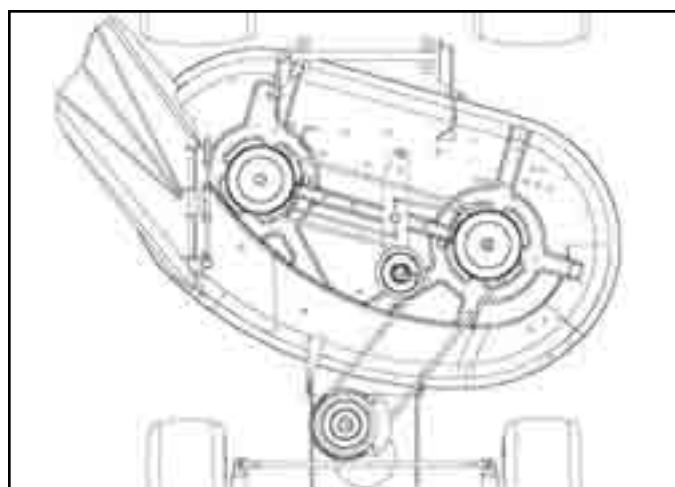

Fig A6 002 38in deck
3. Check the clearance between the brake pad on the brake arm assembly and the mower drive pulley. It should be set between .06" – .12" (1.5mm – 3.0mm) away from the deck pulley (Fig. A6 002).